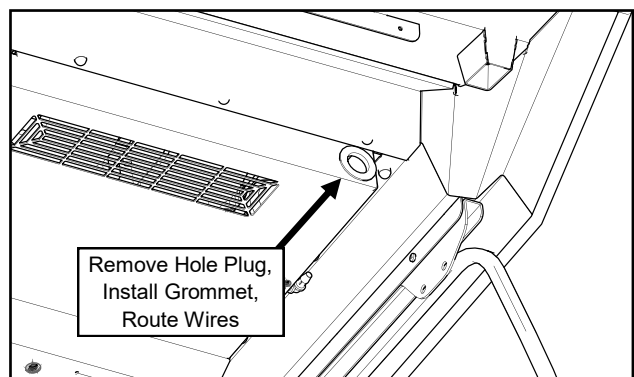

Fig. 5.3 (Route Power Cable into cab)
- 5.3 Remove the plastic plug from the right-rear of the A/C unit and install the large grommet from the hardware bag into the hole in the A/C unit. See Figure 5.3.